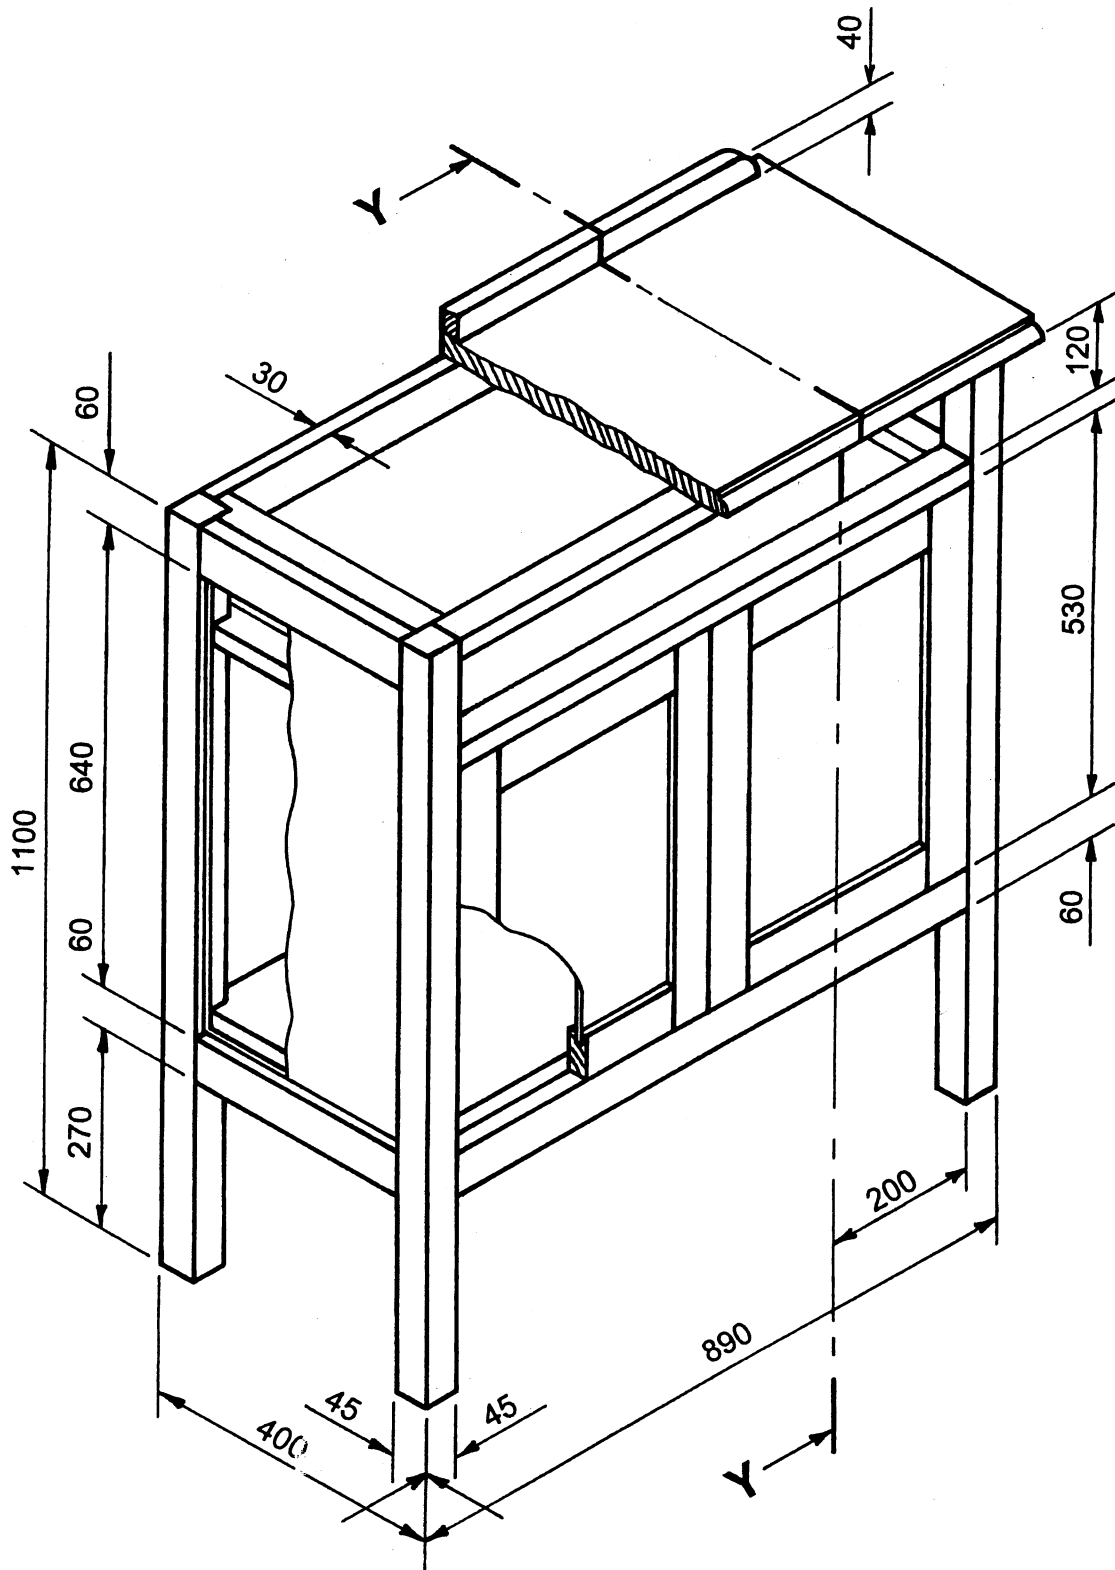

FIG. 4
**Figure 4** on page 7 of this examination paper shows an isometric view of a **cabinet**.